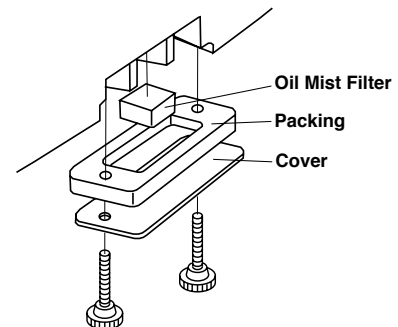

Fig.6-4 Cleaning Oil Mist Separator
(5) Cleaning Oil Mist Separator (Fig.6-4)